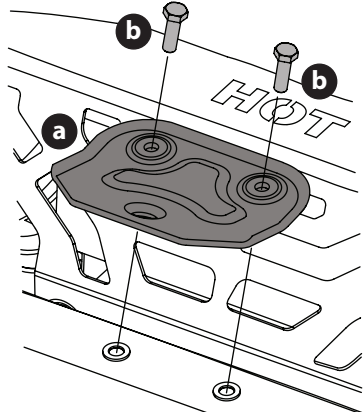

Fig. 3
1. Locate hitch (a) and install on the rear of the frame using the two hex washer screws (b) provided (Fig. 3).